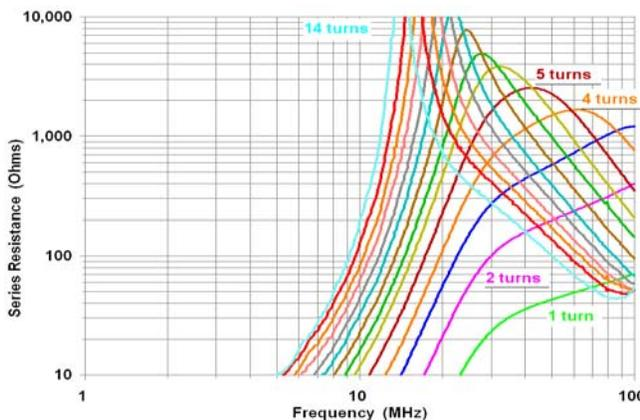

Fig 33 – R_s for chokes on 2.4" o.d. Fair-Rite #61
- ♦ **Inductive Ferrite Choke Balun** The line is wound around a toroidal ferrite core that has low loss at the frequency where the balun is used, so all (or nearly all) of the impedance is inductive. The line may be coax or it may be balanced. Reiser's toroidal baluns are wound on a material like #61 that has low losses at HF (Fig 12, Fig 33).